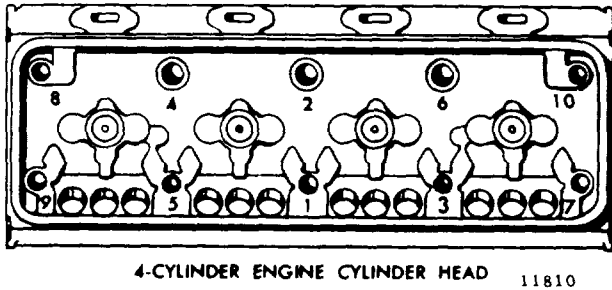

Figure 11B-36. Cylinder Head Bolt Tightening Sequence
9. Tighten the two flywheel housing attaching bolts directly below the rear lifter bracket. Install a new gasket and secure the rear engine lifter bracket to the cylinder head and the flywheel housing. Tighten the bolts to 55-60 lb-ft (75-81 Nm) torque (see Figure 11B-37 on page 11B-25).